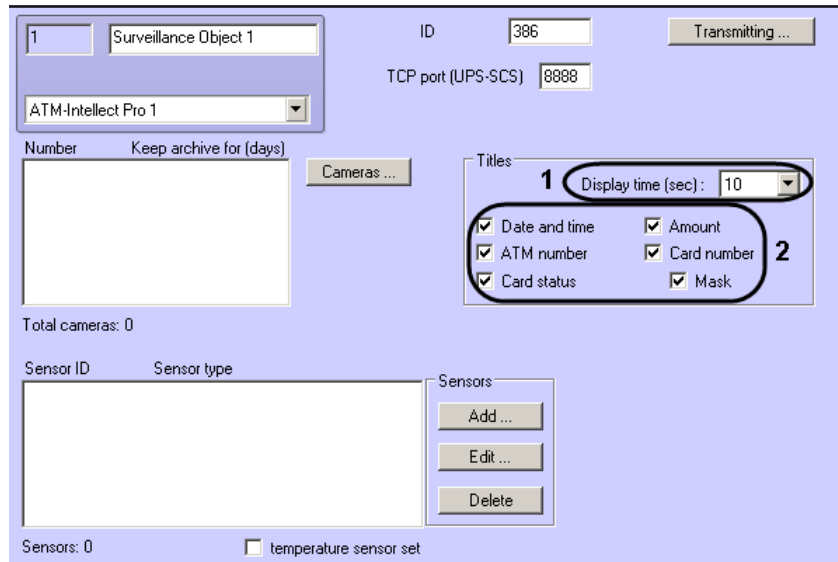

Fig. 8.4—9 Setting information contained in titles
1. Go to the **Surveillance Object** object setting panel (Fig. 8.4—9).
2. In the **Display time (sec)** field set the length of time, in seconds, for which captions are displayed on the video image after the corresponding event occurs at the protected object (ATM) - (Fig. 8.4—9, 1).
3. Set the checkboxes in front of information which should displayed in captions (Fig. 8.4—9, 2).